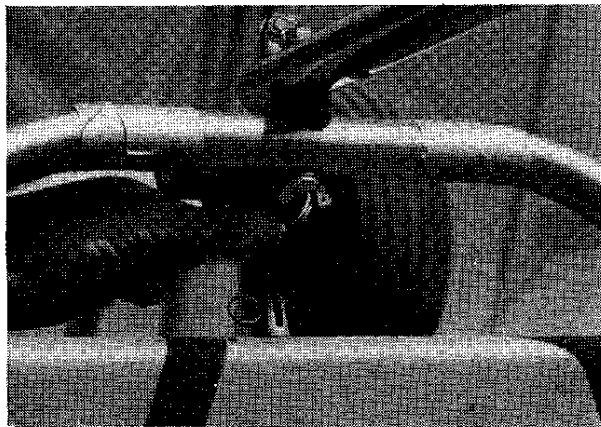

Figure 2.22
28. Attach tail skid to tail mount using AN4-26, wingnut and safety ring. Be sure to insert saddle fittings. **Figure 2.22**